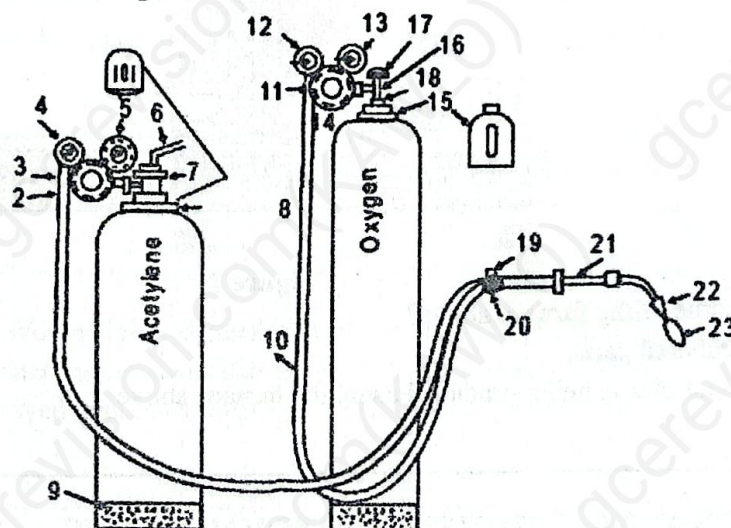

Figure 2
- g) Copy the table below in your answer booklet and give the name of the numbered parts in figure 2 above.